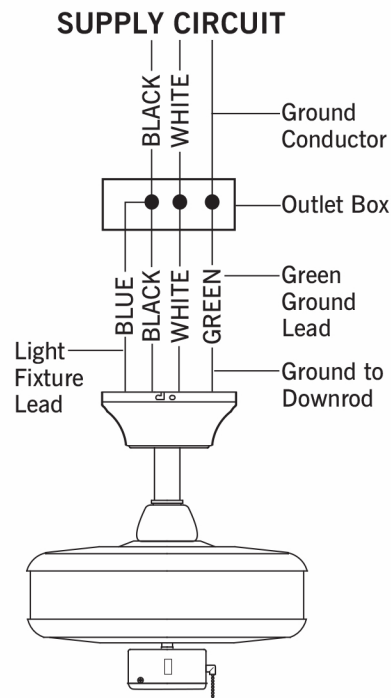

Figure 11
Step 1 Connect the fan supply (black) wire and light fixture (blue) wire to the black household supply wire as shown in Figure 11.